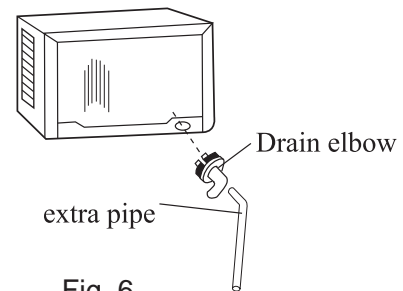

Fig. 6
5. Plug the drain elbow of the enclosed accessories (with seal ring) into the drain hole on the vertical wall at the back of the bottom plate (see Fig. 6)